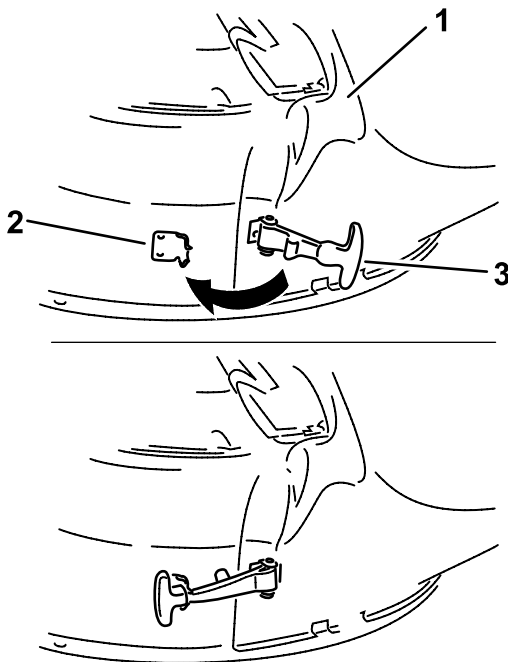

Figure 23
7. Hook the flexible latch on the chute to the retaining clasp welded on the mower deck (Figure 23).